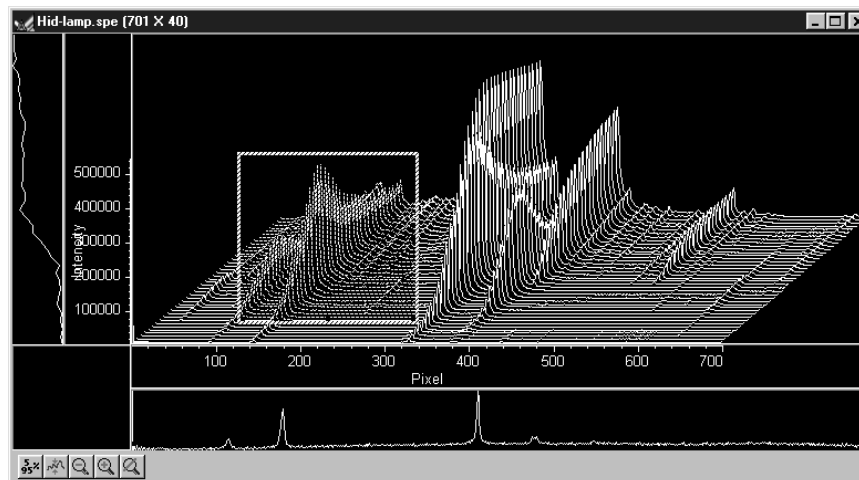

Figure 81. Hid-lamp.spe 3D graph with region selected for viewing
1. Using the mouse, drag a rectangular region on the image as shown in Figure 81.